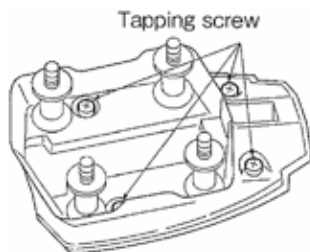

Fig. 8
- 2) Loosen 4 screws (Cross Recessed Pan Head Tapping Screw M4 x 20) and remove the Housing Cover. (Fig. 8) Trigger and the Cancel Switch can be also taken off same time.